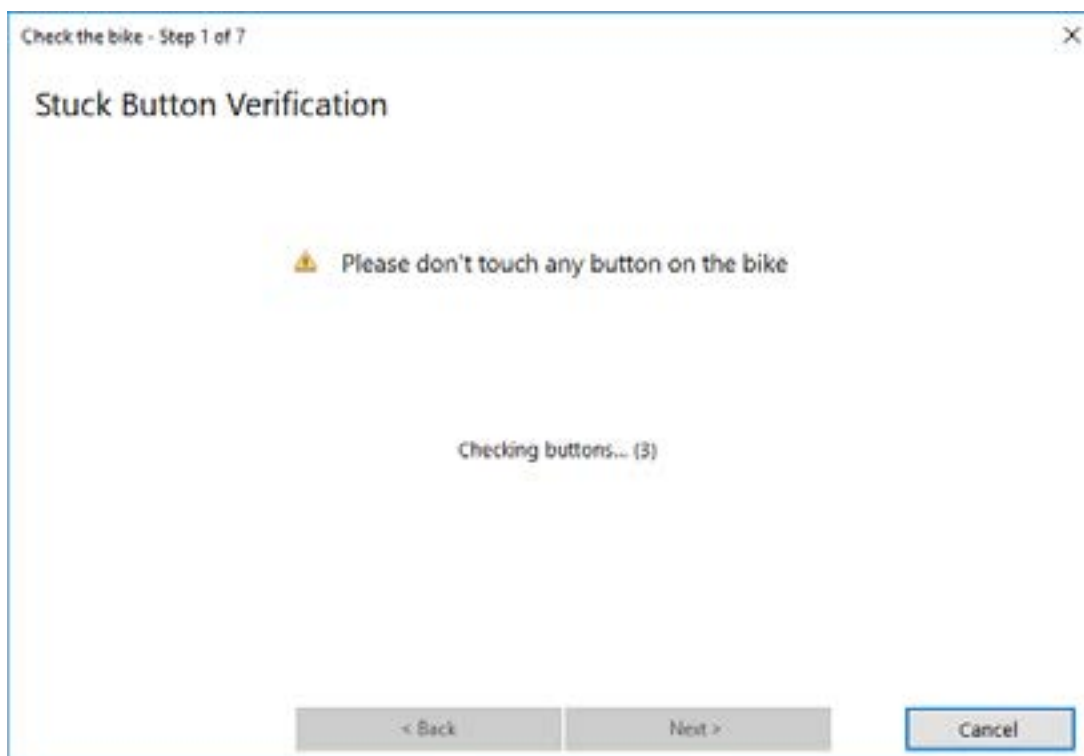
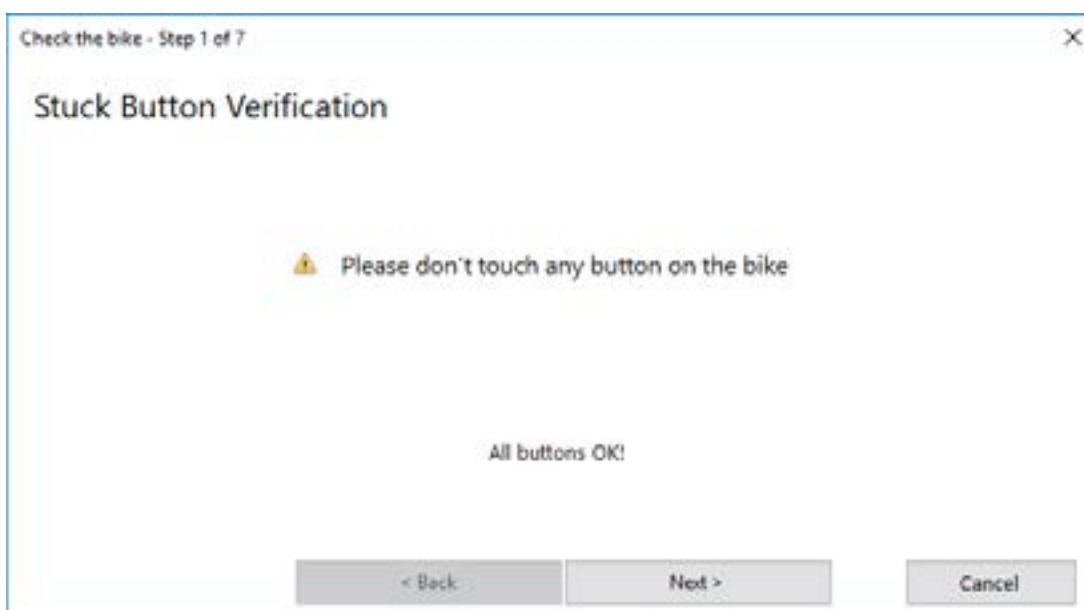

Figure 3.47 Display button test process
Figure 3.48 Completing the display button test
1. **Display button test** - the first part ensures that none of the buttons are jammed. Wait three seconds for automatic button verification (Fig. 3.47). Then confirm by clicking on the “Next” (Fig. 3.48).